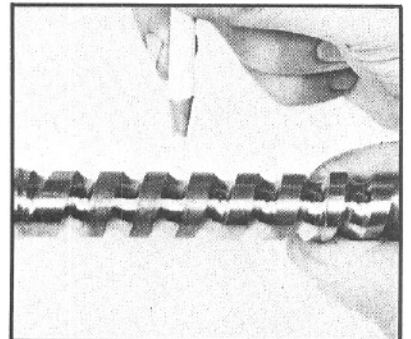
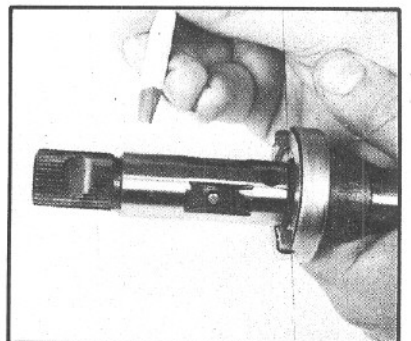

Figure 80
Figure 81
3. Inspect the worm shaft (17) ball track grooves for brinelling or spalling (FIG. 80). If either condition exists, you must replace all of the following parts: the worm shaft/input shaft (17), the drive ring (16), the rack piston (31), the valve sleeve(15). Visually inspect the upper shaft seal area near the input shaft serrations for nicks, and run your fingernail edge across the sealing surface to detect steps (FIG. 81).